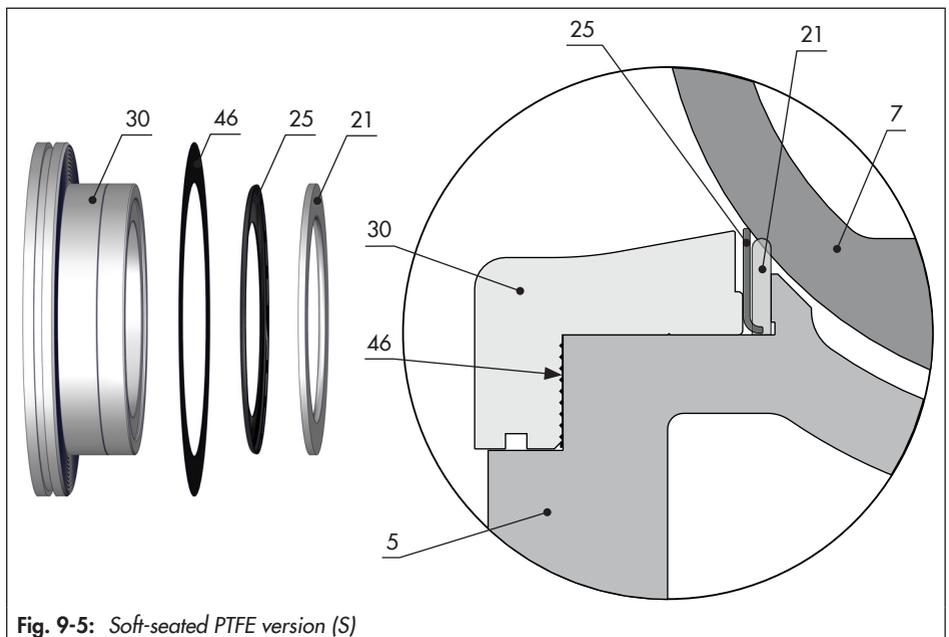

Fig. 9-5: Soft-seated PTFE version (S)
See Fig. 9-5
1. Remove the support ring (25) and seat ring (21).
4. Insert a new seat (21) into the body.
5. Insert the support ring (25). Make sure it is properly aligned (see Fig. 9-5).
6. Mount the retainer seal (46) on the retainer (30).
7. Insert the retainer (30) with retainer seal (46) into the valve body and fasten using retaining screws (70) and washers (80). Observe tightening torques.
*The retainer (30) can be pressed into the body using, for example, a blank flange, by tightening the flange bolts accordingly. In this case, first place the valve in the CLOSED position to center the seat ring and segmented ball.*